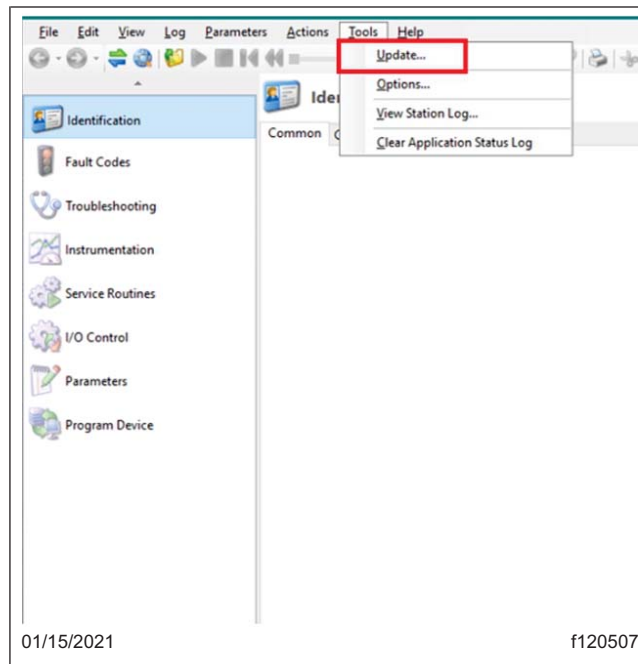

Fig. 1, Updating DiagnosticLink to the Latest Version
- Connect the vehicle to DiagnosticLink. Ensure DiagnosticLink is updated to the latest version (8.13 at the time of publication) or newer. To update DiagnosticLink, select 'Tools' from the top menu and then select 'Update' from the dropdown menu. See Fig. 1.